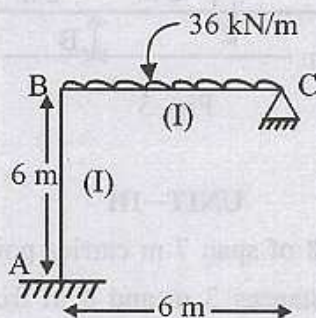

Fig. 1
2. Analyse the frame given in Fig. 1. Using the strain energy method. (15)